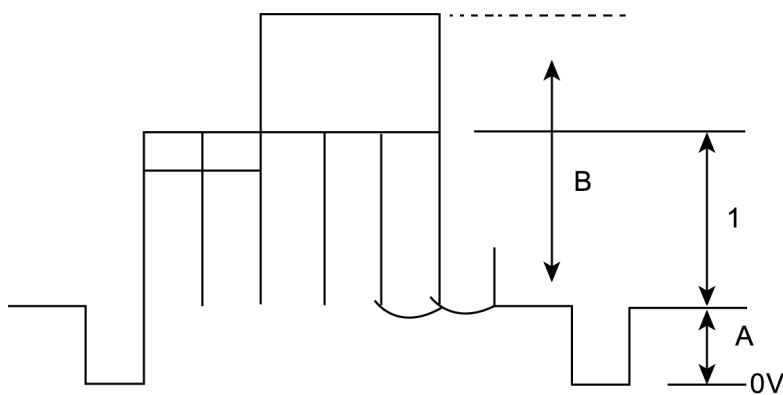

Fig. 4
6. Set (A) to $2.3 \pm 0.2V$ by BRT (CHK2) at measurement point TPL 2 Fig. 4.
1. Connect oscilloscope probe to TPL 2 (G OUT) with $10k\Omega$ series resistor and adjust Contrast so that (B) as in Fig. 4 is $2.25 \pm 0.05V$.
2. Adjust "Sub Colour" so that waveform as in Fig. 4 (1) $2.5 \pm 0.1V$.